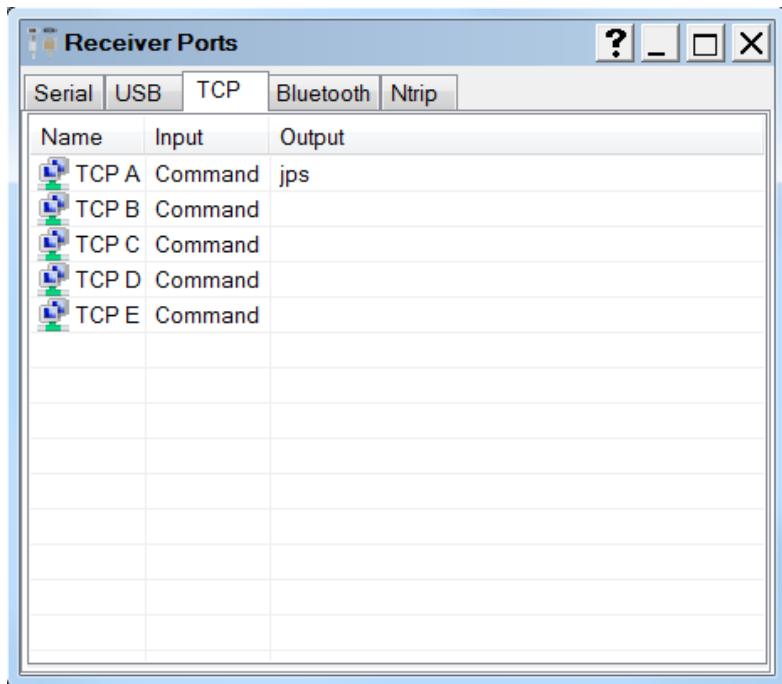

Figure 35: TRU – Receiver TCP Port
2. Click **Ports**, then click the **TCP** tab. The **Receiver Ports** screen for the **TCP** tab appears (Figure 35).
3. Double-click the appropriate TCP Port name (Figure 35). The **Settings** screen for that port appears.